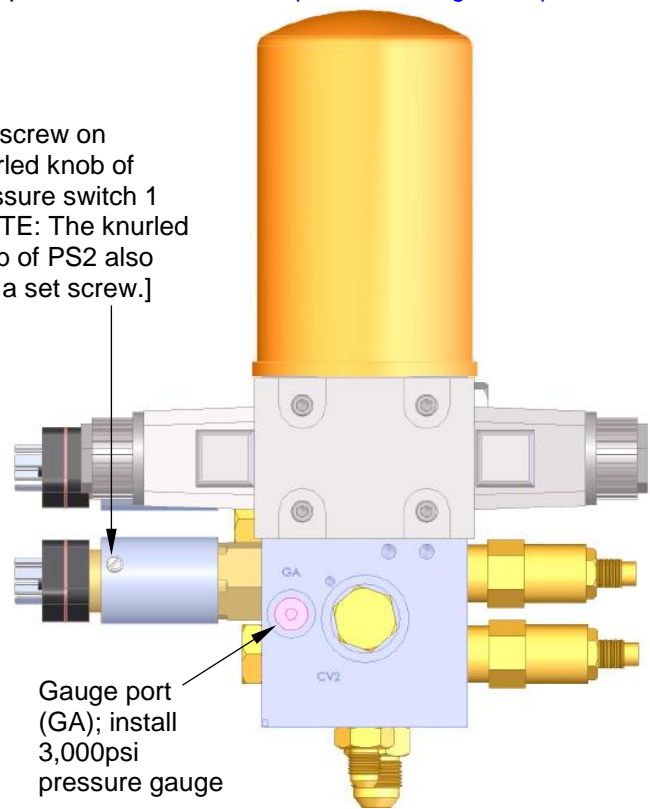

FIG. 6: Rear view
- a. Remove cap plug from GA port (located under directional valve; see FIG. 6) and install a 3000 psi gauge.